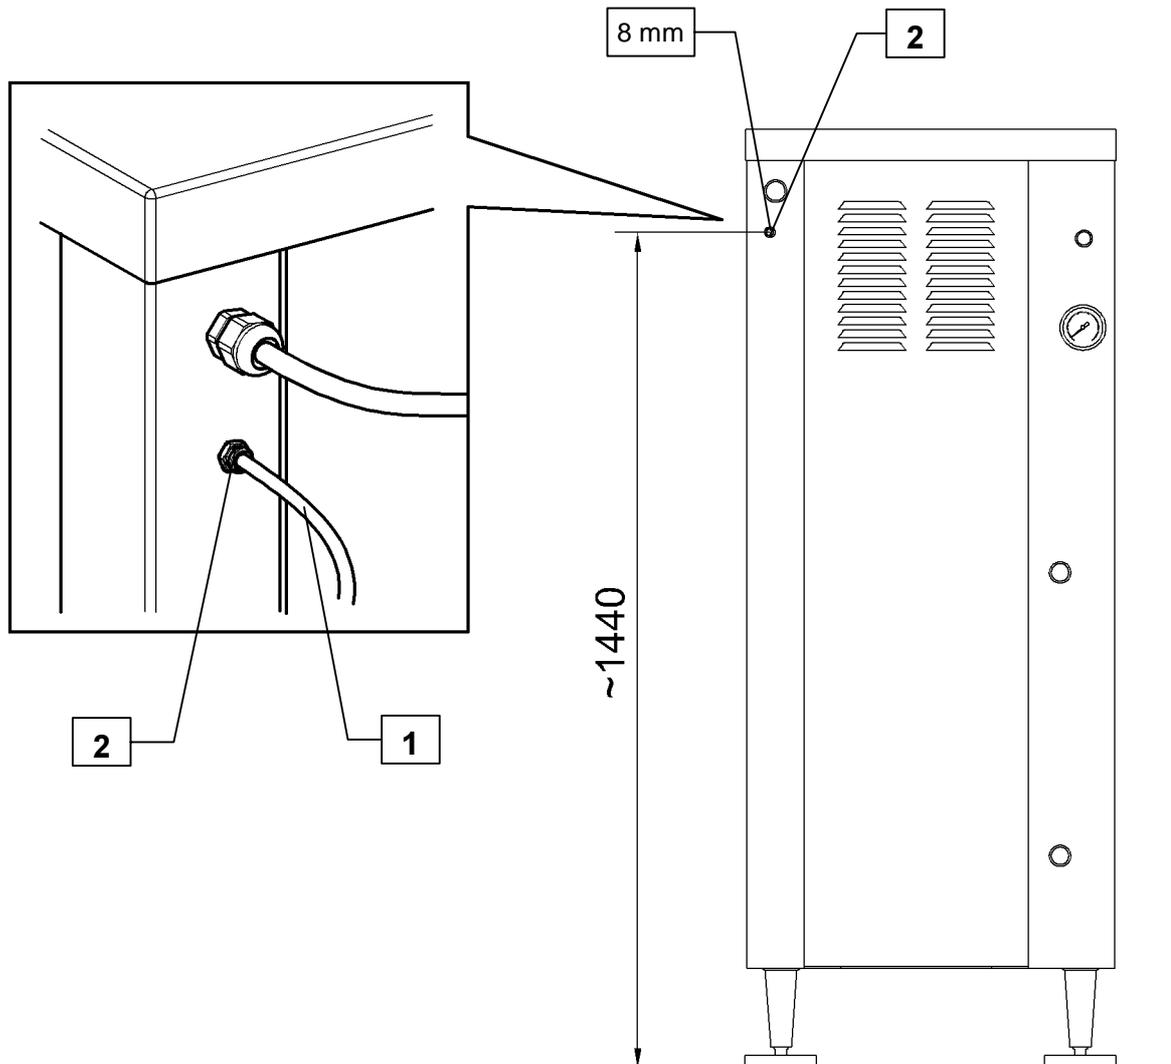

Fig. 4-5 – Compressed air connection
The connection must be done by skilled technicians aware of the relative standard described above. Proceed executing the connection of the supply pipeline (Fig. 4-5 pos. 1) with the compressed air coupling (Fig. 4-5 pos. 2) present on the rear part of the machine.